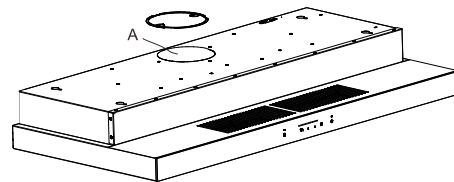
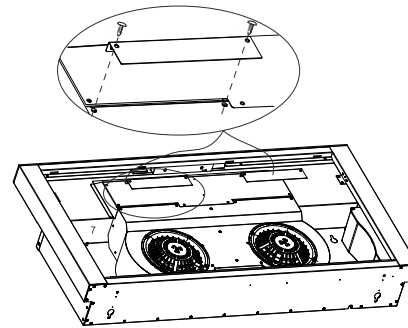

Fig.9
Fig.10
1. Before fixing, please confirm the opening A on the hood (Fig.9) must be closed, and make sure the transfer plate is in the right position (Fig.10) since the air is re-circulated into the room through the front vents.